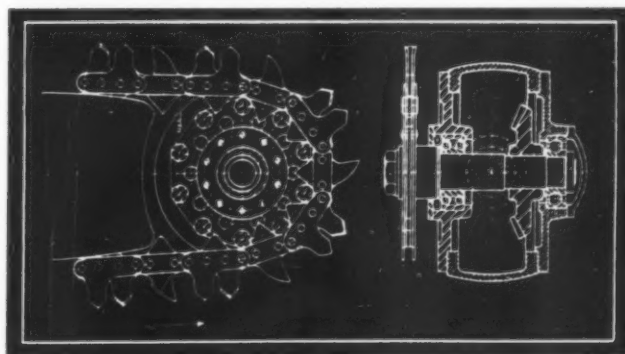

Fig. 3—Details of chain drive, showing how the ten-sided disks ease the load on the sprocket pins
2. Saw mechanism proper, consisting of an endless cutting chain (see *Figs. 1, 2 and 3*) sliding on the edge of a bridge or guide plate and driven through a pin sprocket (see *Fig. 3*) and bevel gear reduction. This assembly connects with the clutch and engine through a swivel joint, details of which can be seen in *Fig. 2*.
member of the whole saw unit, since on its performance hinges the success of the machine. It is an endless chain ordinarily made up of 74 individual links, each of approximately 2-inch pitch. The names of the alternate members—cutter teeth and rakers—tell their purpose, one scoring the wood fibers while the other follows “chisel-fashion” and removes the chips, see *Fig. 3*. In service this chain is subject to severe strains through sudden jerks especially when the cut pinches the chain. It is designed to permit easy filing, set and swaging, which is necessary several times each week.
As is obvious from *Fig. 3*, the chain is driven through a 2:1 bevel gear reduction and a ten-tooth pin sprocket. To minimize wear of the pins, and also to provide a smoother drive the sprocket is fitted with two ten-sided driving disks, one on each side of the chain. These engage the chain side links as they travel around the sprocket. The same design is car-
Small machine parts may be designed of richly colored cast phenolic plastics, such as the Hotchkiss stapling machine of *Fig. 3*. Long looked upon as an unattractive desk machine, the new unit designed with plastics boosted sales and won new friends by concealing the blunt skeleton-like operating mechanism. Gear shift knobs and clock cases are other instances of styling products with cast phenolic plastics.